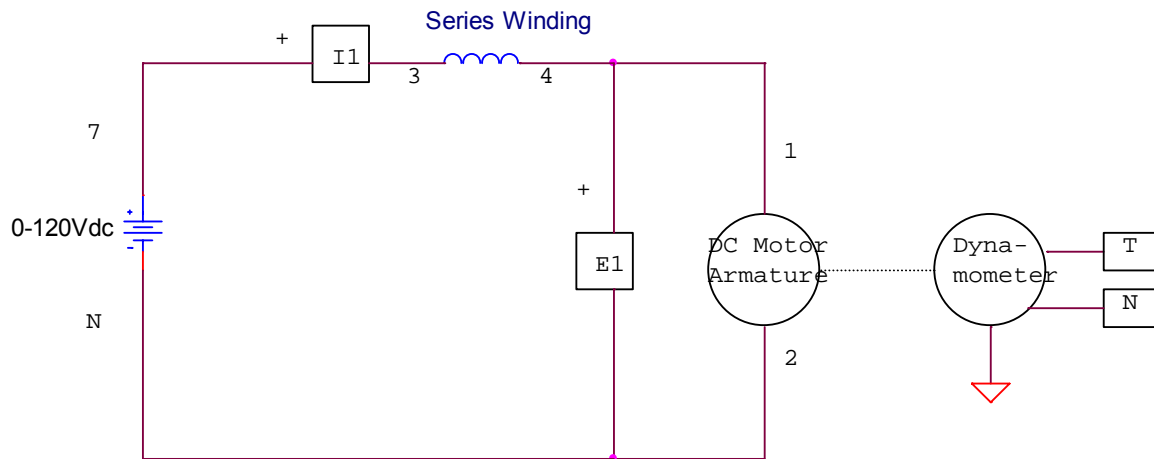

Figure 2: Series connected DC Motor Circuit
21. Construct the series DC Motor circuit of Figure 2.
24. Open the *Data Table Application* use it to record the armature voltage (E1), armature current (I1), speed (N), and output torque (T).
25. On the Dynamometer, set the DISPLAY switch to the TORQUE (T) position slowly turn the LOAD CONTROL knob clockwise to increase load torque from 0 – 1.0 Nm in increments of 0.1 Nm. For each torque setting, readjust the voltage control knob of the Power Supply to maintain a constant voltage. After the speed stabilizes, record the data in the data table.
27. Open the *Graph window*. Obtain a plot of DC Motor Speed (N) vs. Torque (T). Title the graph “Lab 7 Plot 3 Series Motor Speed vs. Torque”, name the x-axis “Torque (Nm)”, and name the y-axis as “Speed (rpm).” Then save or print the graph for your report.